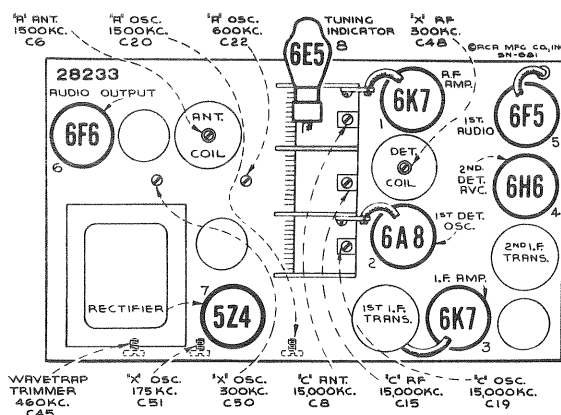

Figure 3—Radiotron and R-F Trimmer Locations
The eleven trimmers associated with the r-f, first detector, and oscillator tuned circuits have their locations shown by figures 3 and 6. The three trimmers which are at all times directly in shunt with the variable tuning condensers necessitate that the "Short wave" (C) band be aligned first. The range selector switch should, therefore, be turned to its "Short wave" position for the first adjustments. Leave the output indicator connected to the output system.